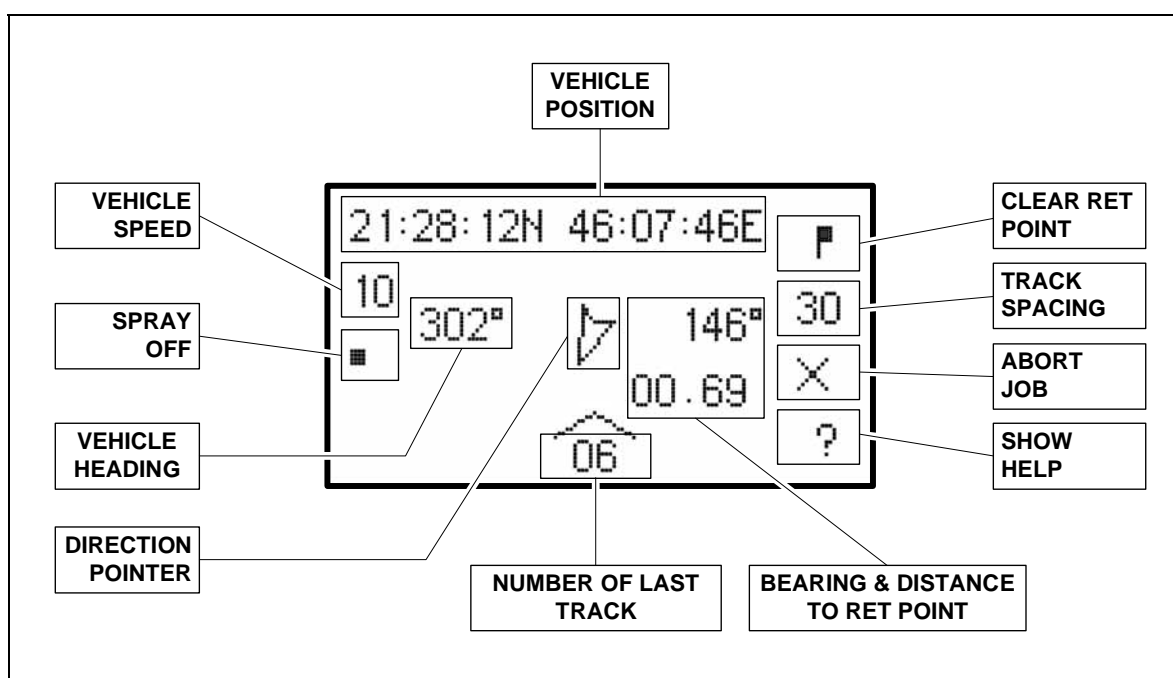

Fig. 12 – Orientation Display
3. Drive the vehicle out of the spray area as required. Note that the display will change from track guidance mode to orientation mode when the vehicle moves away from the return point – see Fig. 12. The distance at which the display changes can be set via the Spraytrac configuration – see section
- 4.8. When in orientation mode, the display will show the distance (in km) to the return point and a pointer will indicate the direction to the return point relative to the vehicle – see Fig. 12.